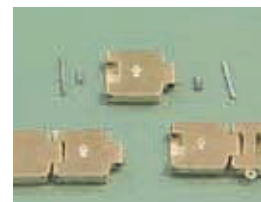

Fig.15
- 4) After the pin & pipe are removed, the links may be separated. (Fig.15)